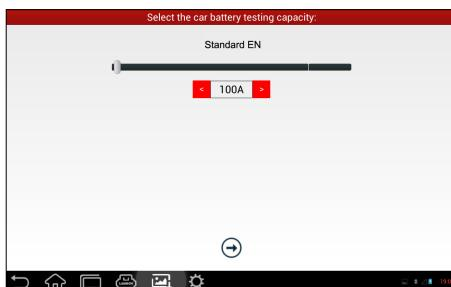

Fig. 7-6
- Select a testing standard except for JIS and tap , a screen similar to Fig. 7-6 will appear. Users can adjust capacity size by tapping on < or > or by dragging the slider on the bar.